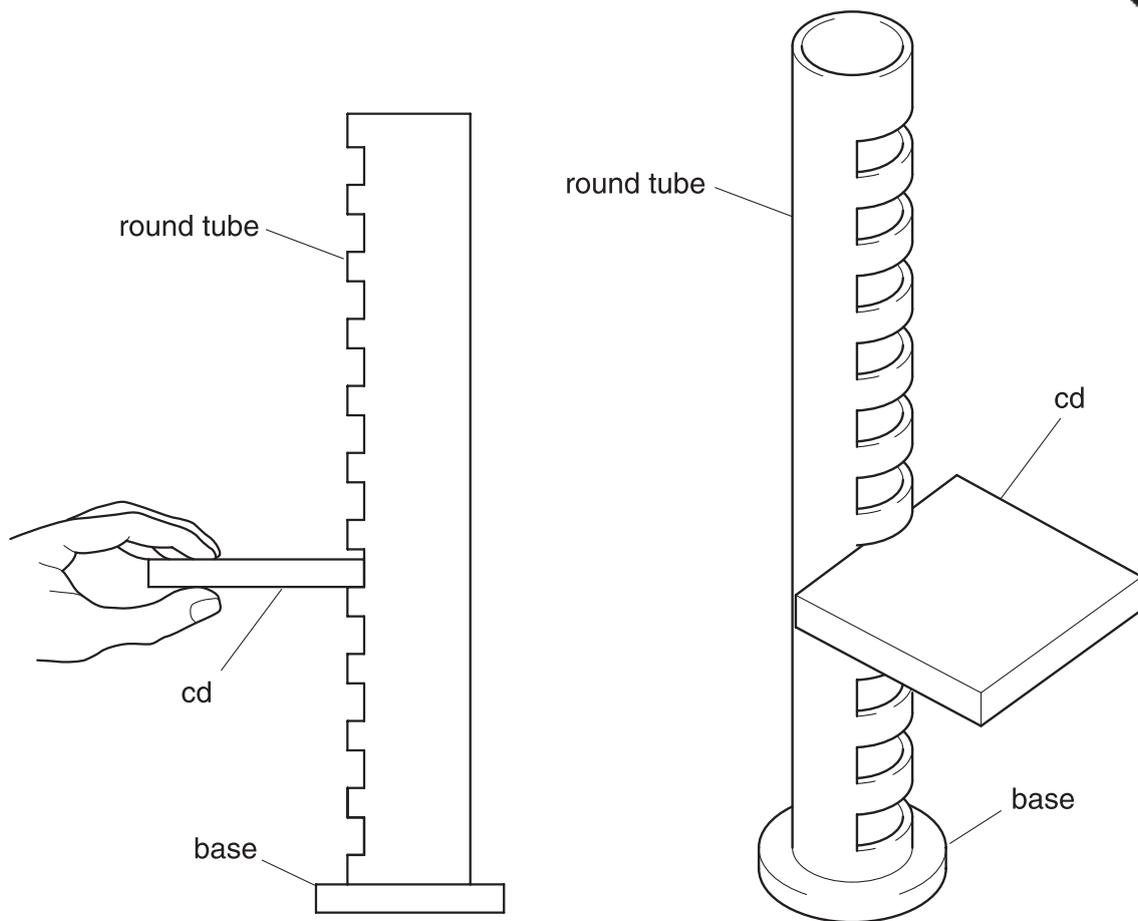

Fig. 4
- 4 Fig. 4 shows a compact disc (CD) storage rack.